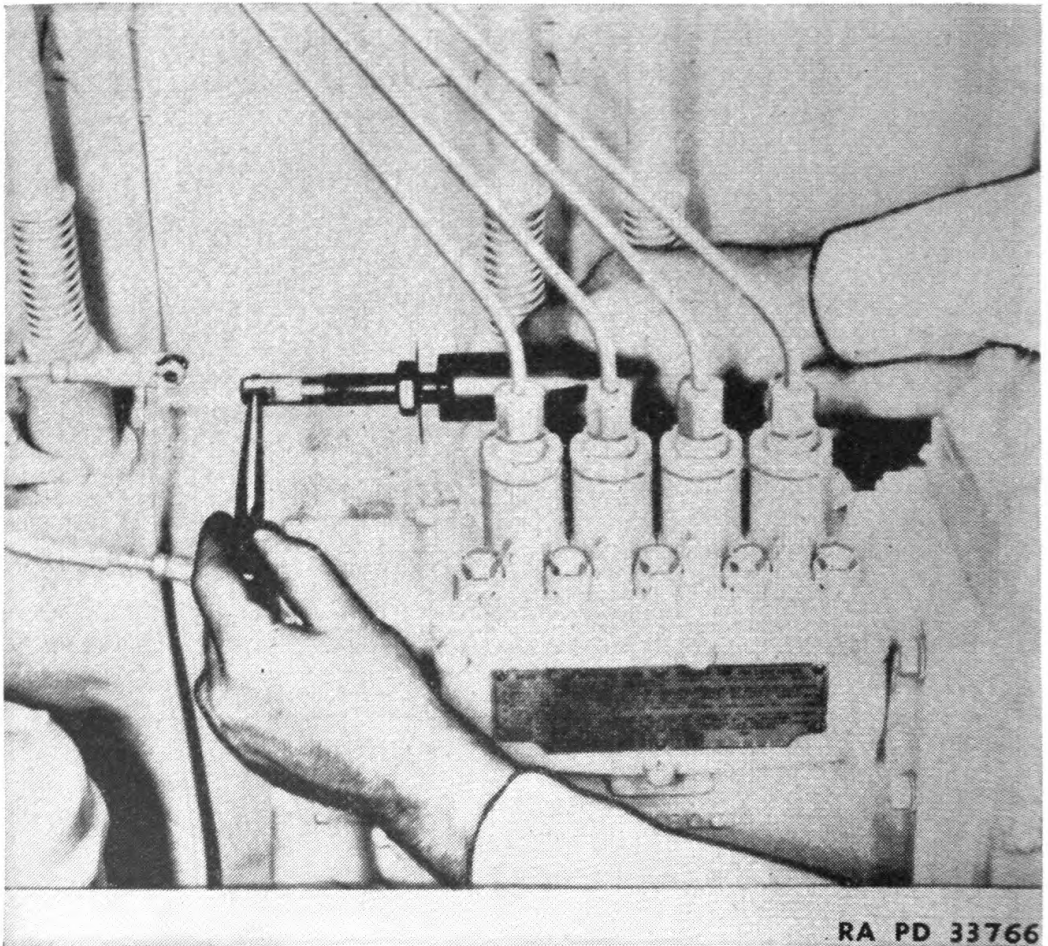

FIGURE 68.—Low idle speed adjustment.
54. Low idle speed adjustment.—Low idle speed adjustment (fig. 68) can be reached after removing throttle control rod boot from governor spring housing. Loosen lock nut that keeps adjusting sleeve from turning, hold onto the rod to prevent it from rotating, and turn adjusting sleeve in or out until the proper low idle speed is obtained. Tighten lock nut after completing the adjustment.